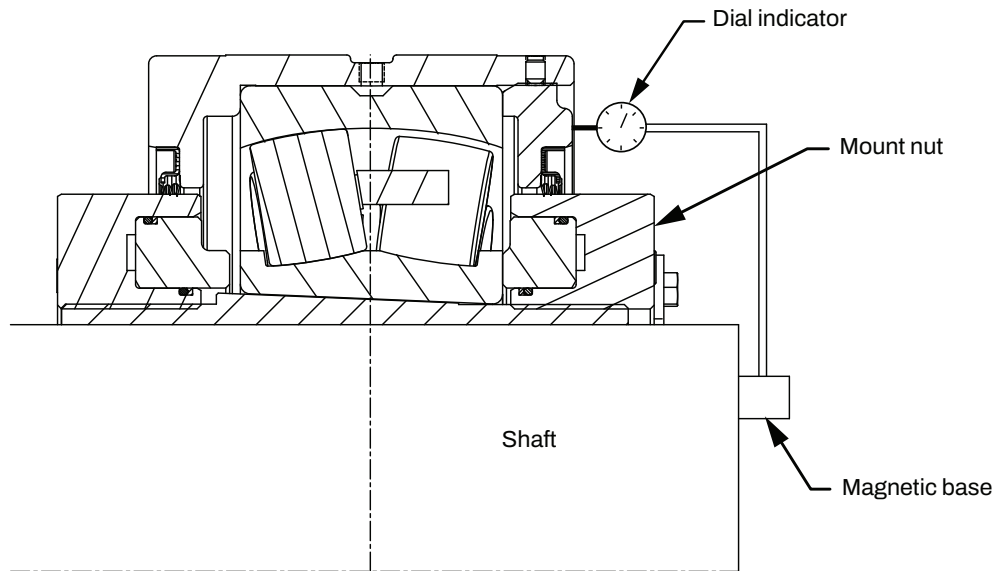

Figure 2 - Magnetic Base Indicator Placement
- Magnetic Base Indicator: Place on the shaft with the anvil on face of inner unit as shown in Figure 2.